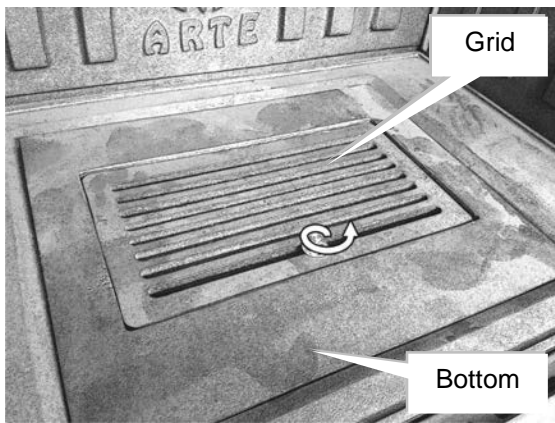
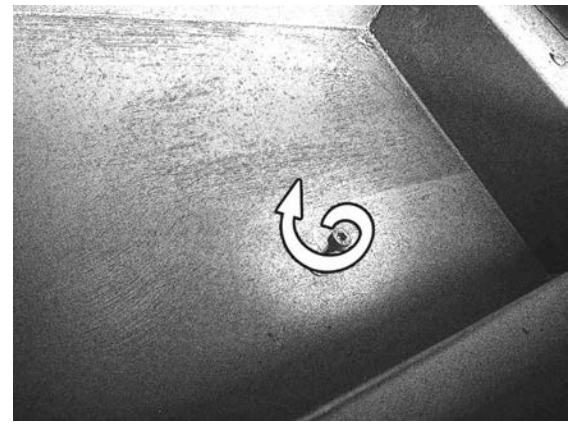

Fig. 1
Fig. 2
- Remove the safety screw that holds the cast iron grid (Fig. 1). Remove the grid, the iron cast bottom and the ashtray and screw the small hex socket head screw (Fig. 2). Finally place in order the bottom, the ashtray and the grid.